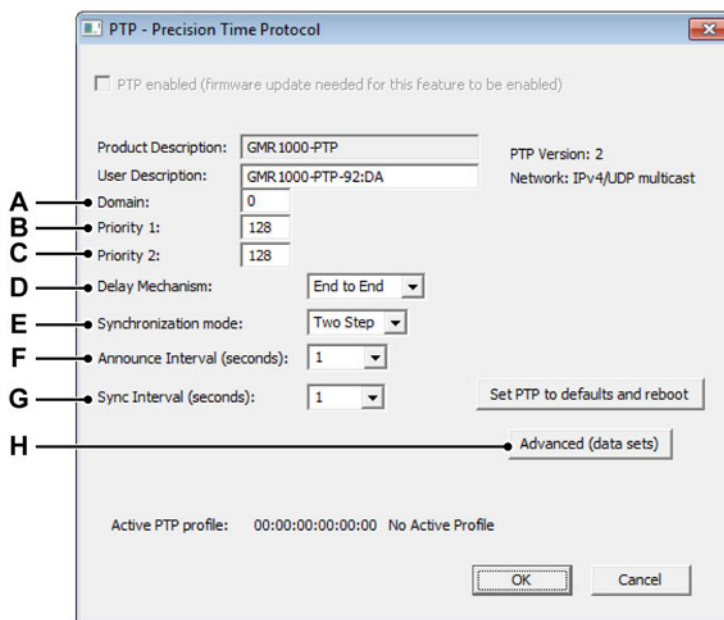
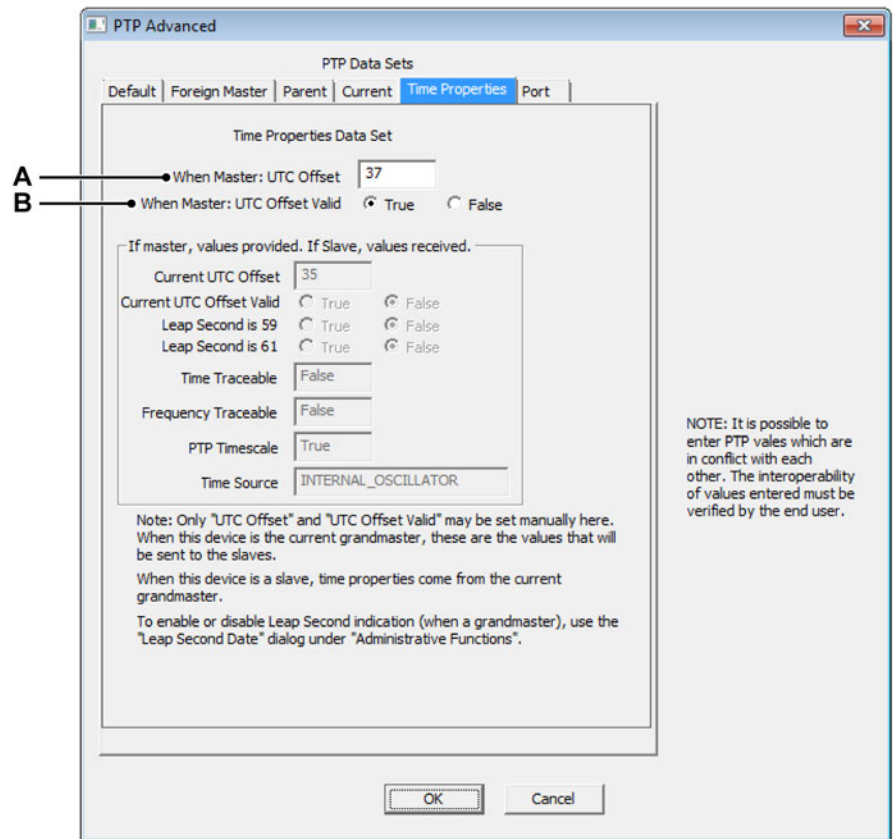

Figure 14.74: PTP - Precision Time Protocol
Figure 14.75: PTP Advanced - PTP Data Sets/Time Properties settings
- 6 Click the **Advanced (data sets) button (H)** in PTP - Precision Time Protocol window (see Figure 14.74) to open the **PTP Advanced** settings (see Figure 14.75).